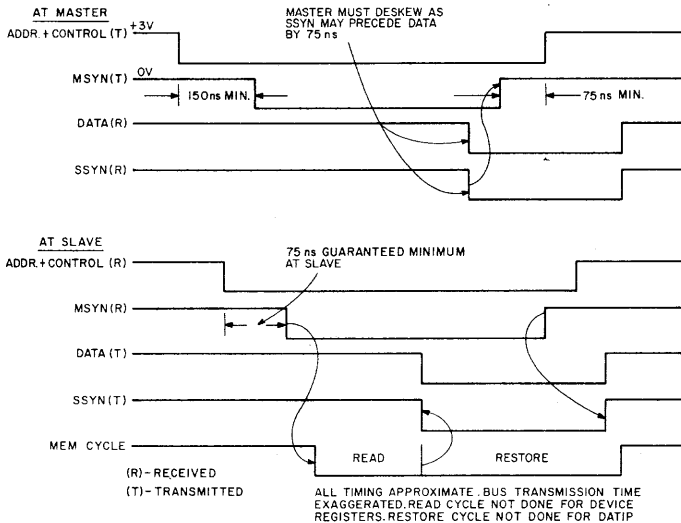

Figure 1-4 DATI and DATIP Timing Diagram
1.2.2 DATI and DATIP Bus Transactions (see Figure 1-4)